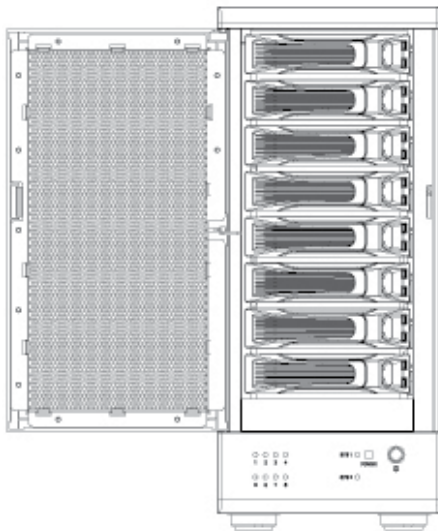

Fig. 19
3. Replace the defective HDD with a hard disk drive of the same capacity or bigger (fig. 19).